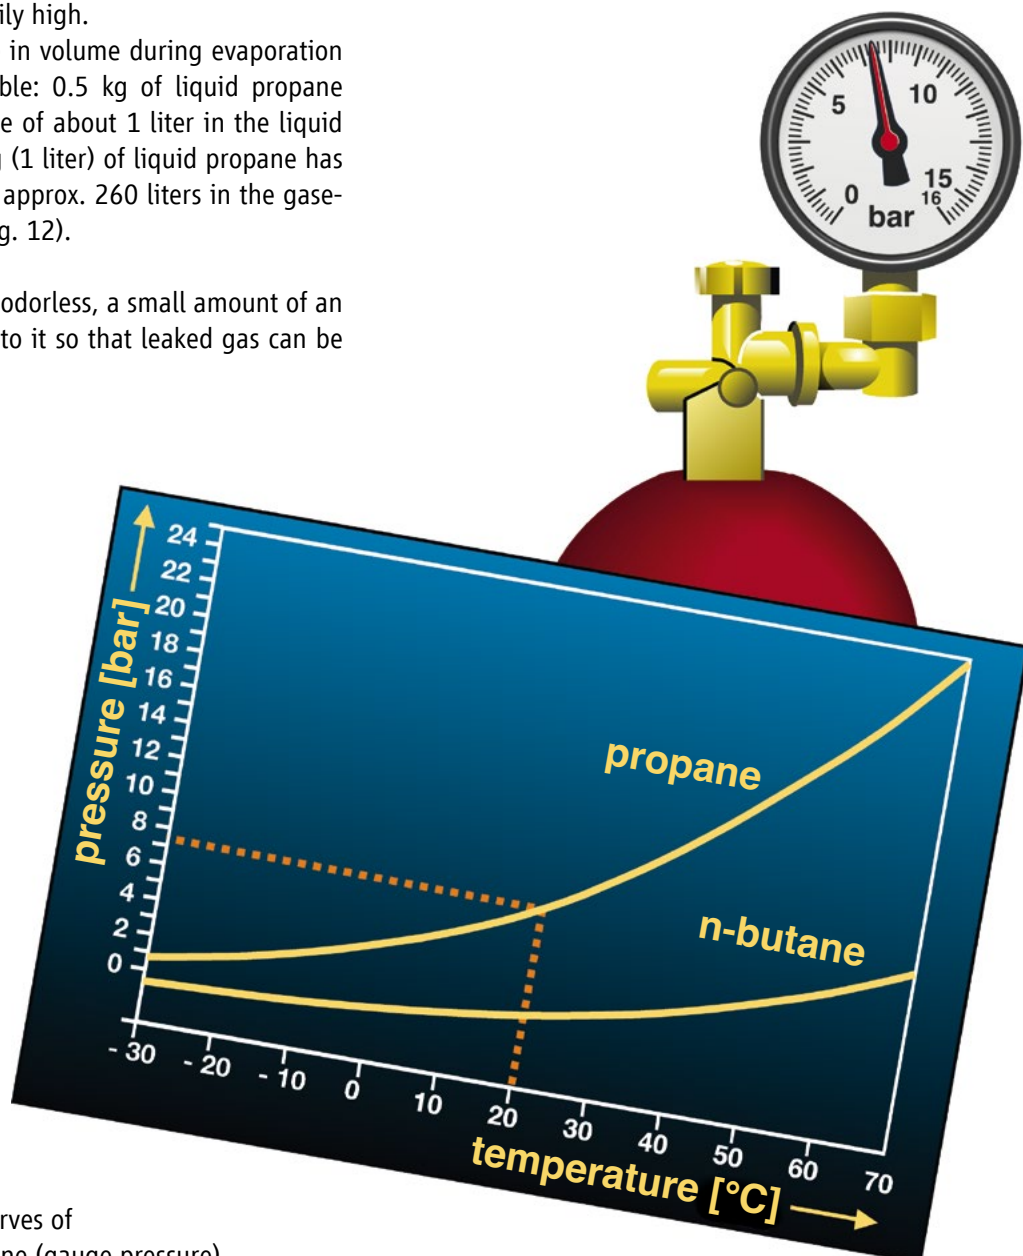

Figure 10:
- The pressure in compressed gas containers for LPG, such as tanks or cylinders, is temperature-dependent (cf. vapor pressure curves, Fig. 10). The overpressure of propane at 20 °C is approx. 7.4 bar; at 50 °C the overpressure is approx. 16.3 bar! Strong heating of the container (e.g. by external fire or internal heating) leads to a massive pressure increase in the container (see Figs. 11 and 15).